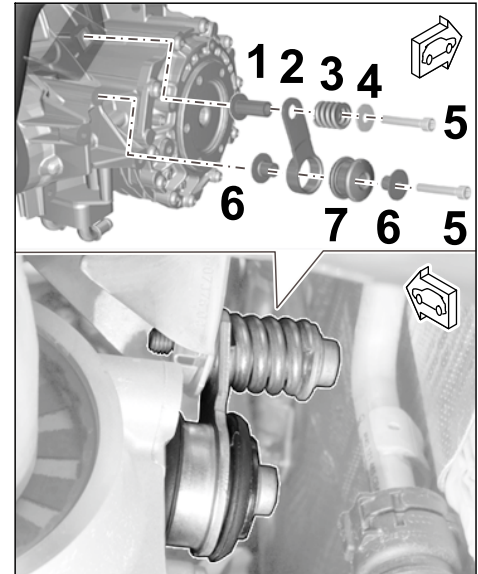

Figure 40
4.1 Install new exhaust pipe(s) with front silencer with a new seal and new spring/tab assembly (⇒ *Figure 40*):